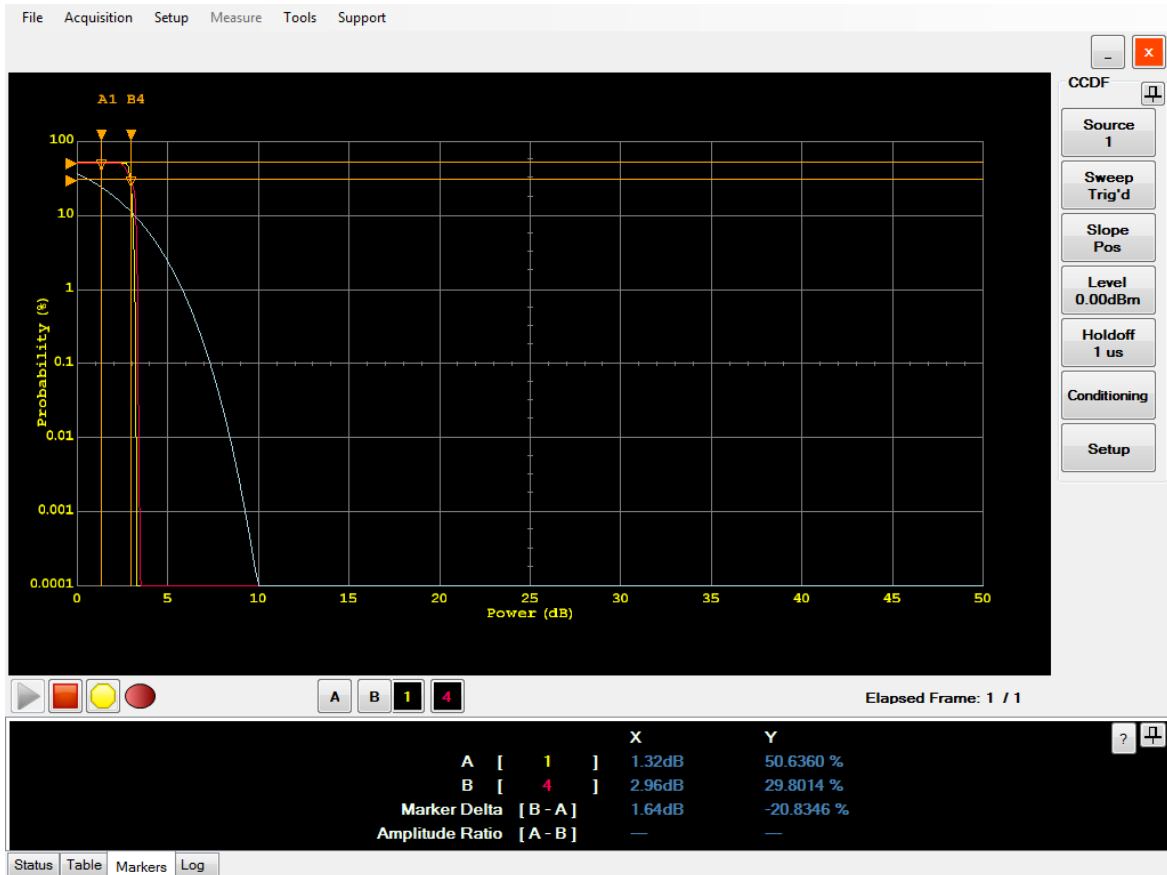

Figure 2-86 Marker view in CCDF
- 4 The Marker view displays the X-axis and Y-axis values for the markers, and the delta values between the two markers that you enabled on the trace as shown in Figure 2-86.